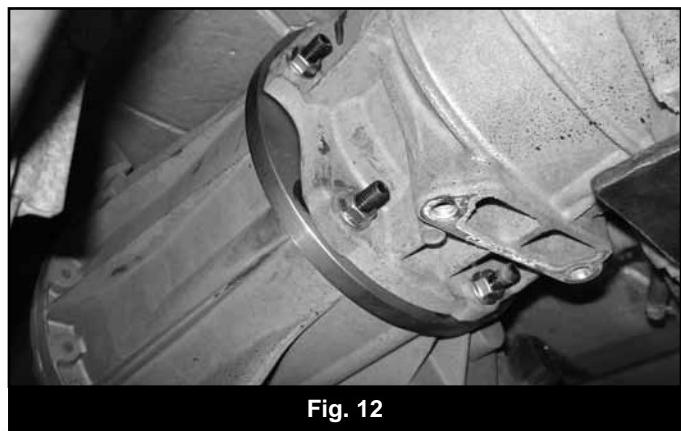

Fig. 12
21. Reinstall the transfer case. It may be necessary to grab the output shaft of the transfer case and rotate it to get it to align with the transmission output shaft. Attach the transfer case with new 3/8" flanged nuts. Use loc-tite on the threads. Tighten to 35 ft-lbs. (Fig 12)